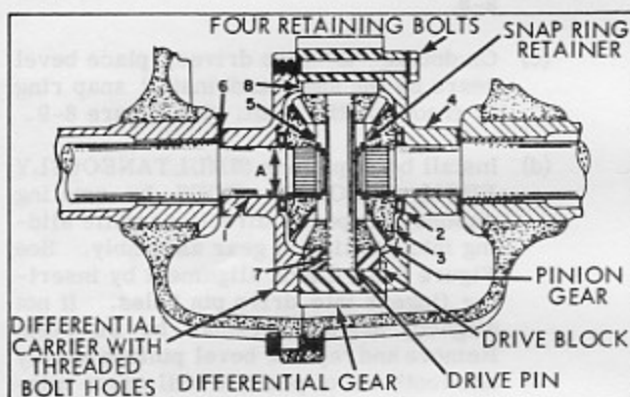

Figure 8-11 1200 Series Transaxle
1. The differential construction may vary from the illustrations but is basically similar. For variations refer to Figures 8-11, 8-12, and 8-13.
- (1) Select the correct axle for the side of the differential opposite the hex head bolts. If the wrong axle is used, it will require complete tear down of the differential, or possibly the entire transaxle if the error is not detected until later.
- (2) Clamp the axle, in a soft jaw vise (not bearing or oil seal surfaces). The differential carrier with threaded holes is assembled to this axle.
- (3) Refer to Figures 8-11, 8-12 and 8-13 for the proper arrangement of parts for the differential being serviced.
- (4) Torque the four hex head bolts to 7 lbs. ft.